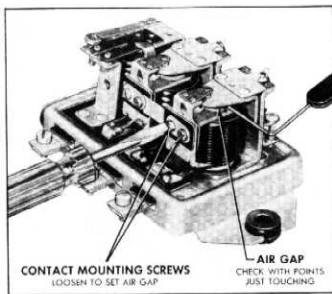

Fig. 21—Checking and Adjusting Air Gap
2. Measure the air gap between the armature and the center of core (fig. 21). This gap should be .075"-.085".